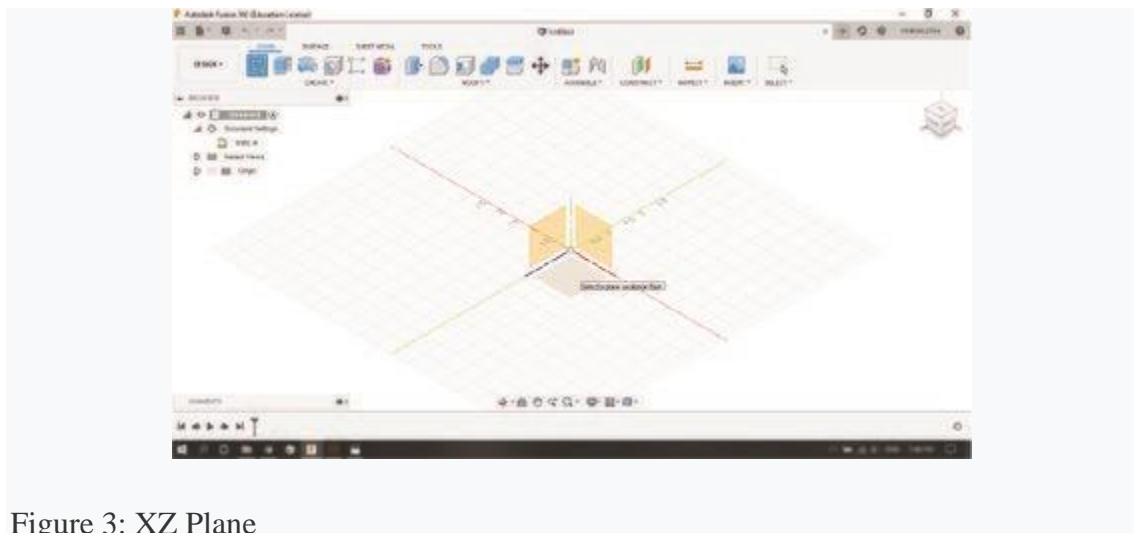

Figure 3: XZ Plane
- b. Select the XZ plane. (Figure 3)